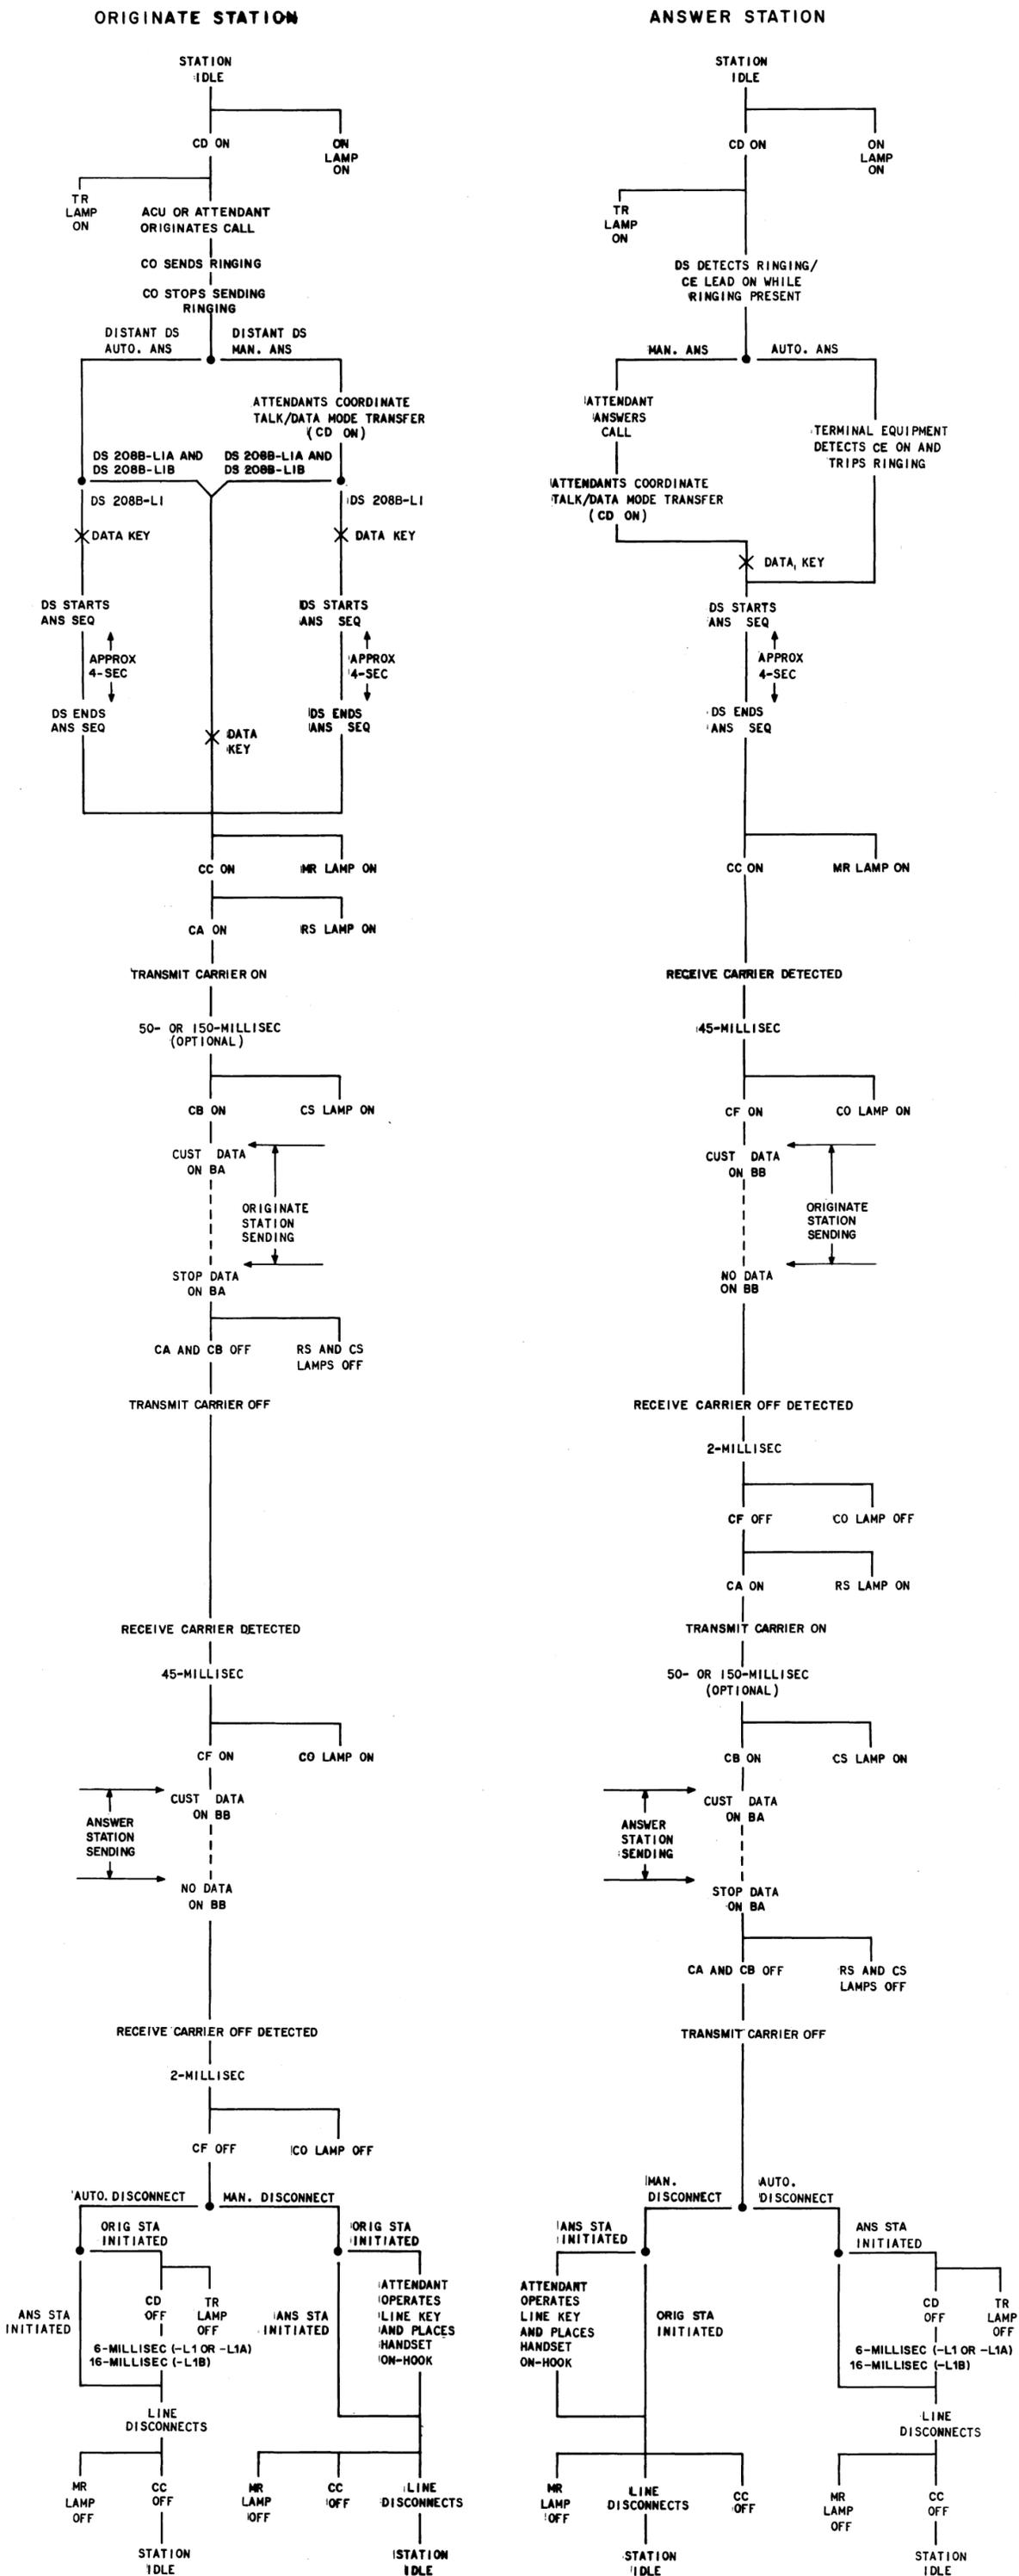

Fig. 23—Data Set 208B-Type Customer Interface
**5.04** Figure 23 is a sequence chart which shows the response of the customer interface leads when a call is originated, answered, and terminated. It is included as an aid in isolating faults which cannot be cleared with the maintenance and test procedures given in Sections 592-030-300 and 592-030-500 and Part 5B of this section.